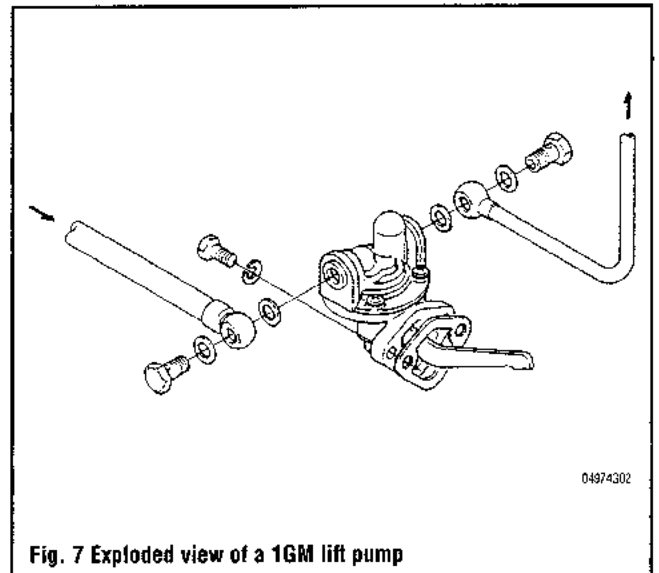

Fig. 7 Exploded view of a 1GM lift pump
▶ See Figures 7, 8, 9, 10 and 11